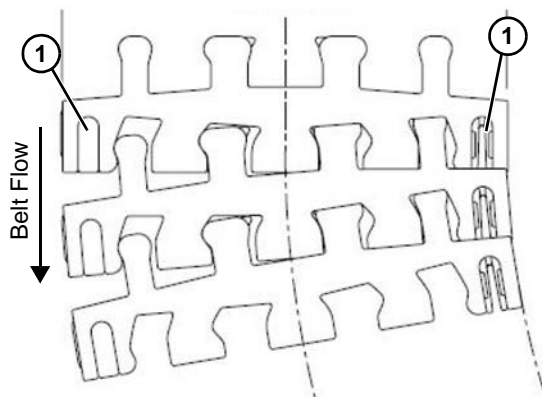

Figure 15
For High Strength Belts the slots on the edge of the belt (Figure 15, item 1) must be oriented with the belt flow as shown.